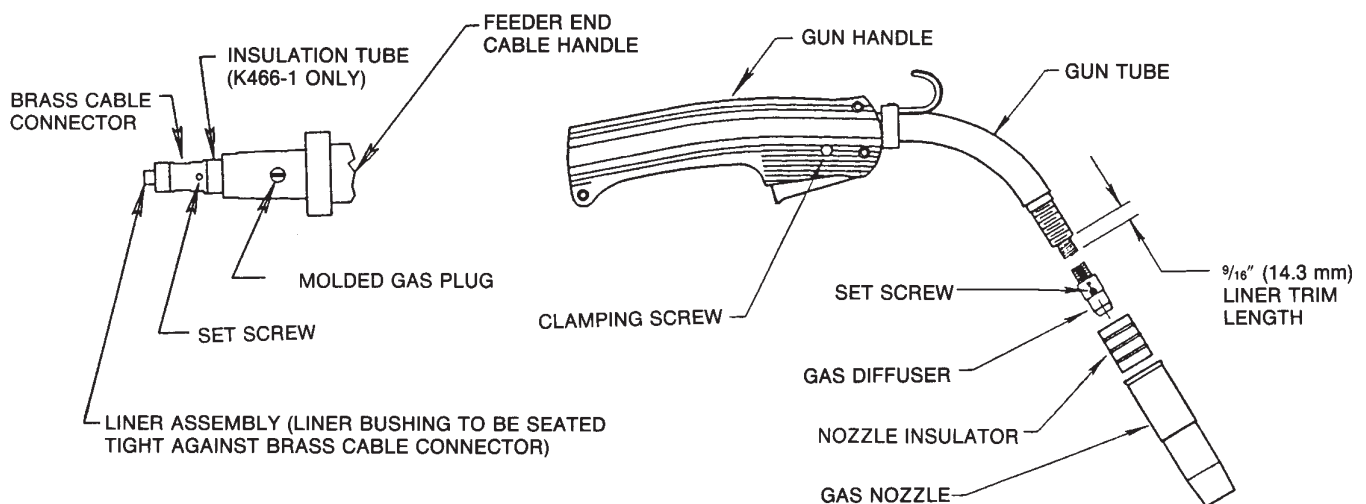

Figure 1
- a. Remove brass cable connector and insulation tube (see Figure 1) from the K466-1 kit. Slide the insulation tube onto the connector from the threaded end and screw it onto the feeder end of the gun cable. Tighten the connection with the wrench provided.
- a. Remove brass cable connector (see Figure 1) from the K466-2 kit and screw it onto the feeder end of the gun cable. Tighten the connection with the wrench provided.
- a. Remove brass cable connector (see Figure 1) from the K466-3 kit and screw it onto the feeder end of the gun cable. Tighten the connection with the wrench provided.
- a. Remove brass cable connector (see Figure 1) from the K466-4 kit and screw it onto the feeder end of the gun cable. Tighten the connection with the wrench provided.
- a. Remove brass cable connector (see Figure 1) from the K466-5 kit and screw it onto the feeder end of the gun cable. Tighten the connection with the wrench provided.
- Remove brass cable connector (see Figure 1) from the connector kit and screw it onto the feeder end of the gun cable. Tighten the connection with the wrench provided.
- Be sure the cable is straight and then trim the liner to the length shown in Figure 1 (a gauge is included on the wrench provided with the connection kit for gauging the cut-off length on 300 and 400 amp gun tubes). Remove any burrs from the end of the liner.